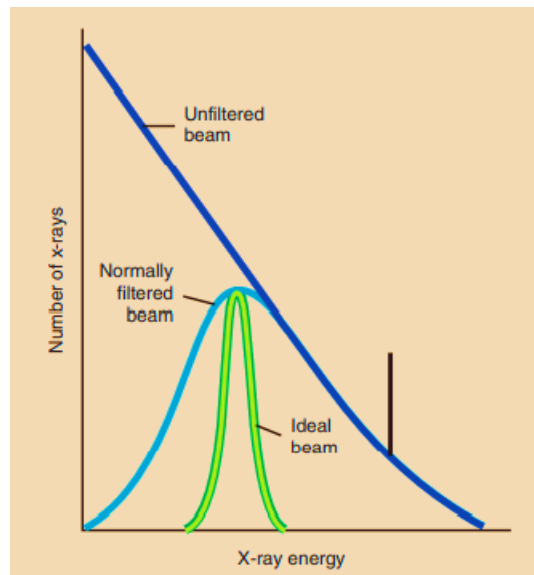

Figure 2: Filtration is used selectively to remove low energy x-rays from the useful beam. Ideal filtration would remove all low-energy x-rays.
- ❁ With a conventional light-localizing variable-aperture collimator, the collimator contributes an additional 1 mm Al equivalent added filtration (figure 2). This filtration results from the silver surface of the mirror in the collimator
Figure 2: Total filtration consists of the inherent filtration of the x-ray tube, an added filter, and filtration achieved by the mirror of the light-localizing collimator.